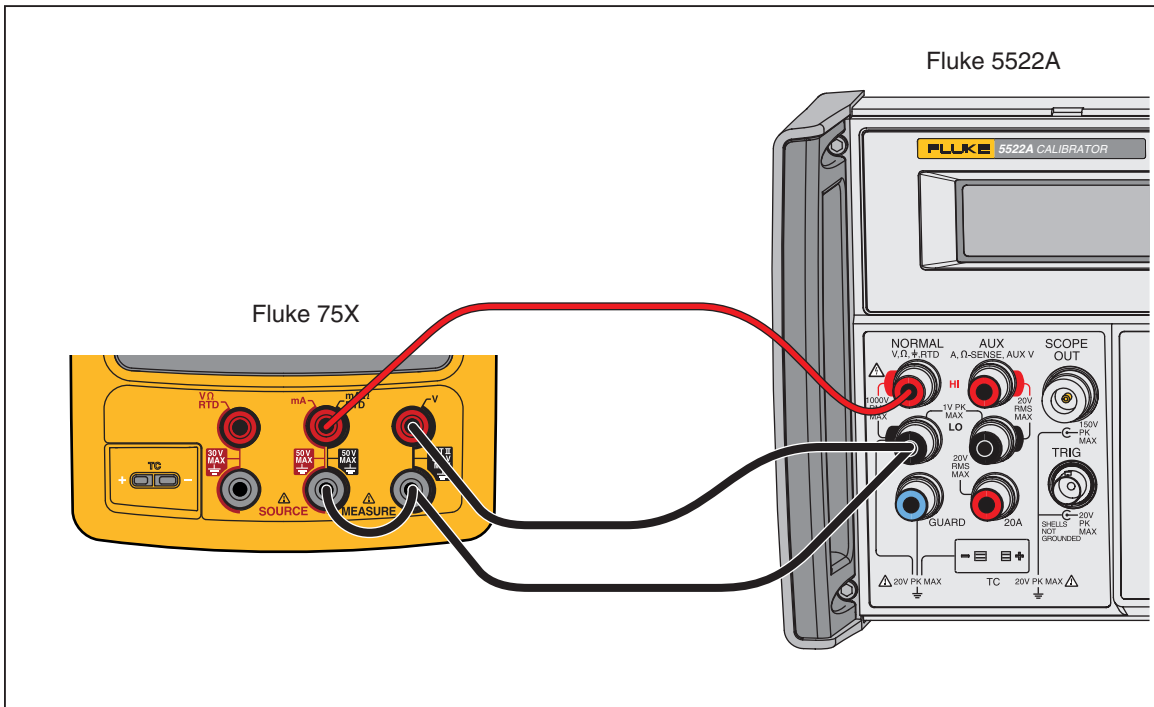

Figure 12. Three-Wire RTD Measure Verification Connections
1. Connect the UUT to the 5522A as shown in Figure 12.
2. Set the UUT to the RTD measure function, Pt100 (385), ITS-90 scale, three-wire termination.
3. Set the 5522A to RTD, Pt100 (385) at -180 °C, ITS-90 scale, and comp four-wire to “OFF” position.